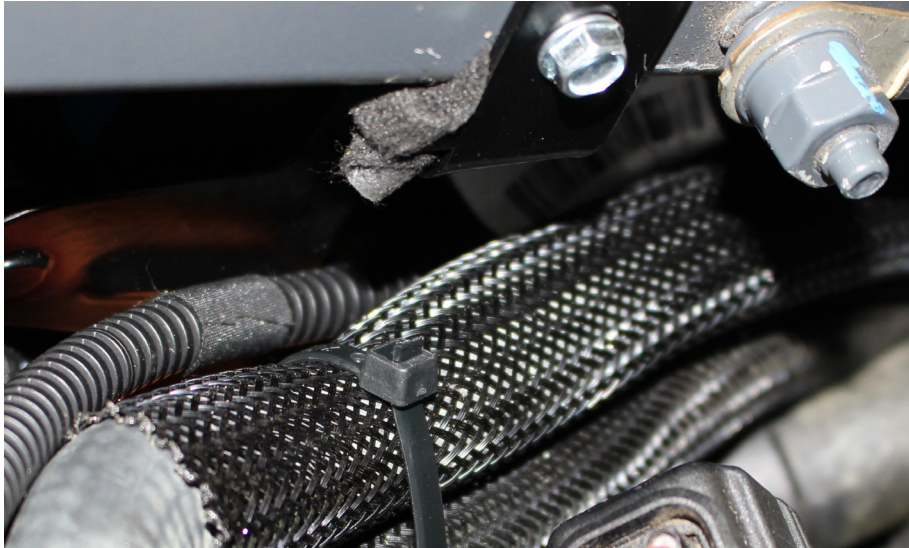

fig. 10a
10. Bleed the system and evacuate as much air as possible, a zip tie was used here to aid in repackaging the hose (fig.10a, 10b). Reassemble the vehicle in the reverse of disassembly